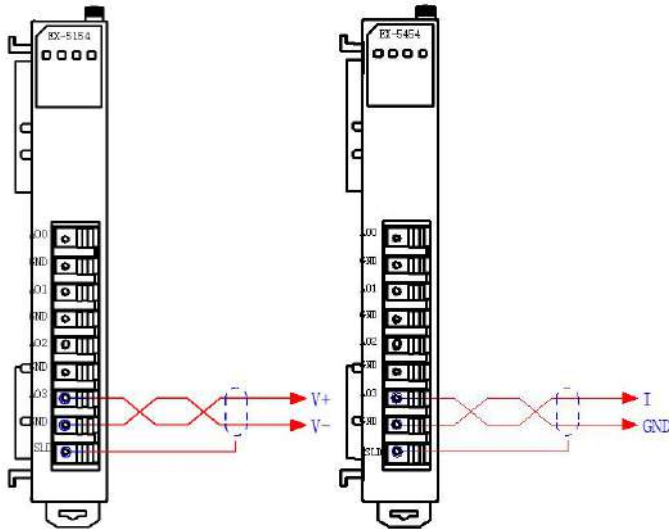

Figure 4-13 Voltage output signal wiring diagram
- Figure 4-13 shows the module wiring diagram of ex-5014, EX-5114, EX-5054, EX-5154, EX-5018, and EX-5118.